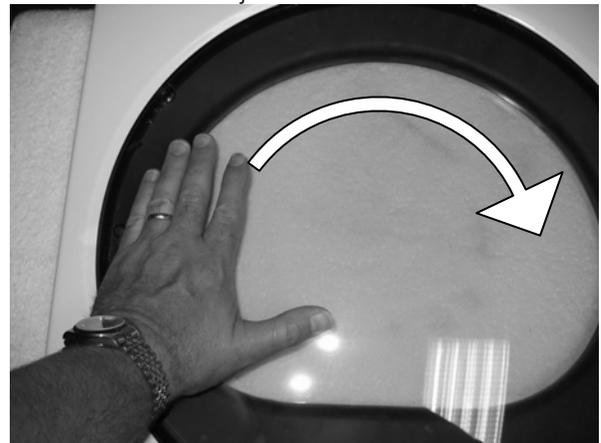

Figure 6
7. Flip door so lens side is facing up. Apply moderate pressure downward and rotate lens 180 degrees so that holes in lens align with transition ring plugs. (Figure 6) (Only required on doors with transition plugs).